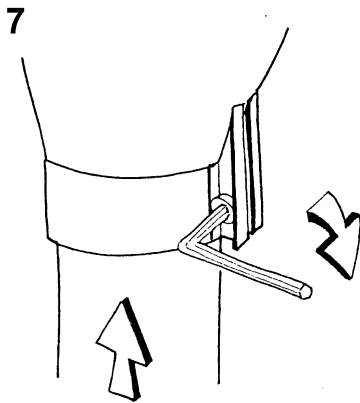

Fig. 56 Installation of cellular dispenser
Install the cellular dispenser in the outlet hopper by pushing it up into the hopper and fastening it by screw (pos. 7, Fig. 56).